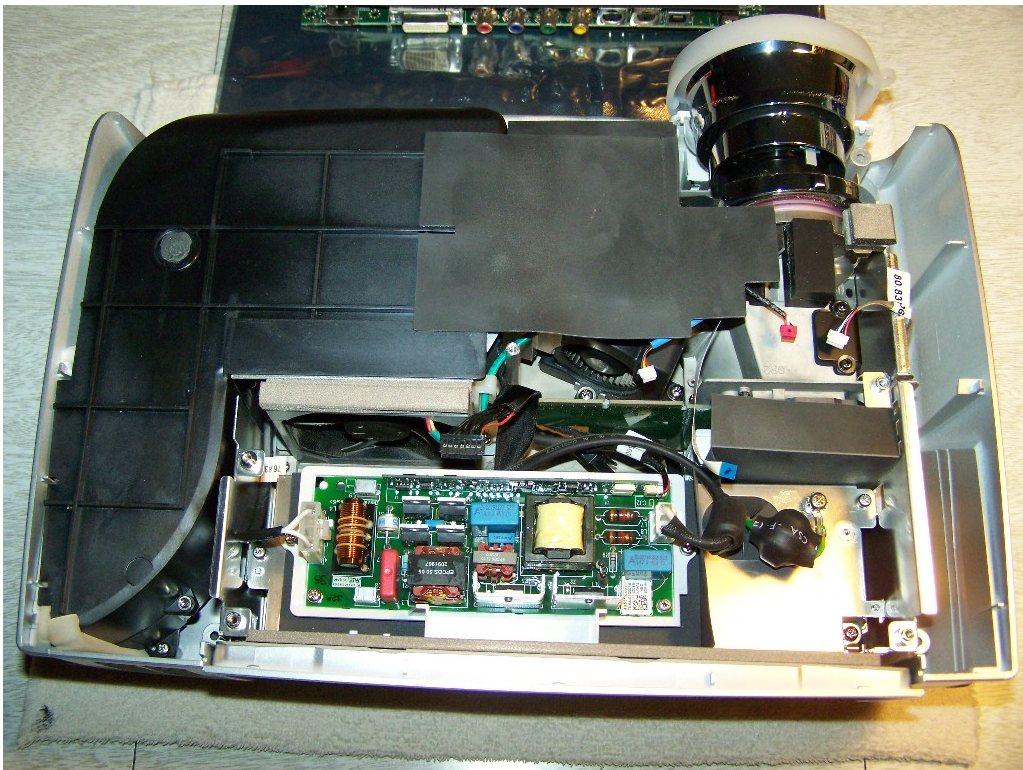

Figure 7 – Main Board Removed
Next, remove the five (5) screws that secure the main board in the chassis. Carefully lift up on the board to disconnect the edge connector to the DLP assembly on the other side. Once the main board is loose, remove it from the chassis as shown in figure 7 below.